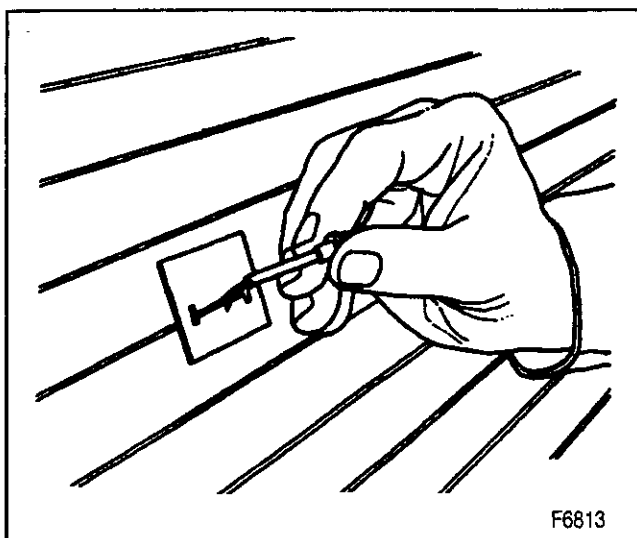

Figure 14—Apply Grid Material to a Broken Grid Line
2. The grid repair material at room temperature to the repair area using a small brush (figure 14).